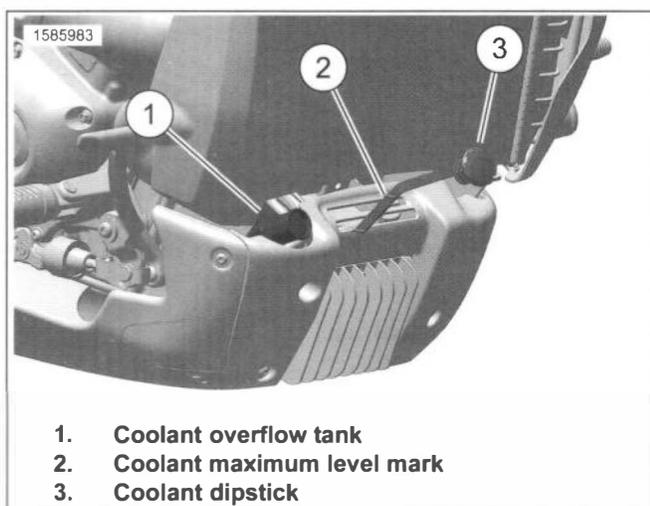

Figure 7-4. Coolant Level
1. See Figure 7-4. Check coolant level.
- a. Remove coolant dipstick (1).
- b. Check that coolant level is at or slightly above the cold MAX level line (2).
2. If level is below cold MAX level line, add coolant to coolant overflow tank (3).